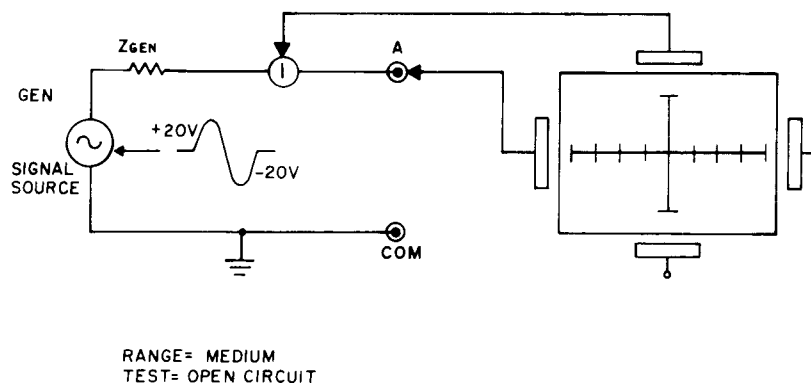

FIG 3
Figure 3 shows the electrical equivalent of the generator section and how the voltage across the terminals affects the horizontal and vertical deflection plates of the CRT. Shown is the symbolic representation of a voltage generator (GEN) with a series internal impedance (Z_{gen}) and a current sensing point (I). Across these network elements are two test points A and COM.
An open circuit (such as that shown in **Figure 3**) has zero current flowing through the test leads and has maximum voltage across the test leads. In the HIGH and MEDIUM ranges this is represented by a straight horizontal trace from the maximum left to the maximum right of the CRT. In the LOW range, an open circuit condition is shown as a diagonal trace from the upper right to the lower left corner of the CRT. **Figure 4a** shows scope traces in HIGH, MEDIUM and LOW ranges.